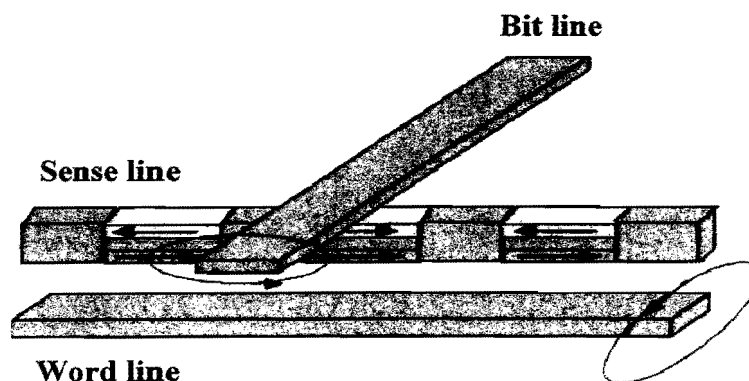

Fig. 4
- (c) With reference to Fig. 4, explain the WRITE operation of a pseudo spin valve (PSV) magnetic random access memory (MRAM) array. [30%]